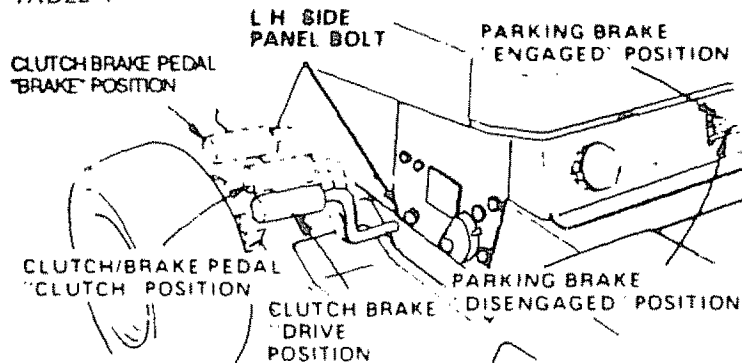

FIGURE 14
- a. Push clutch/brake pedal into full "BRAKE" position (Fig 14).
- c. Place parking brake in "ENGAGED" position and release pressure from clutch/brake. Pedal should remain in "BRAKE" position (Fig. 14).
- c Push clutch/brake pedal down firmly (Fig 14)
- i Release clutch/brake pedal to start movement (Fig 14)